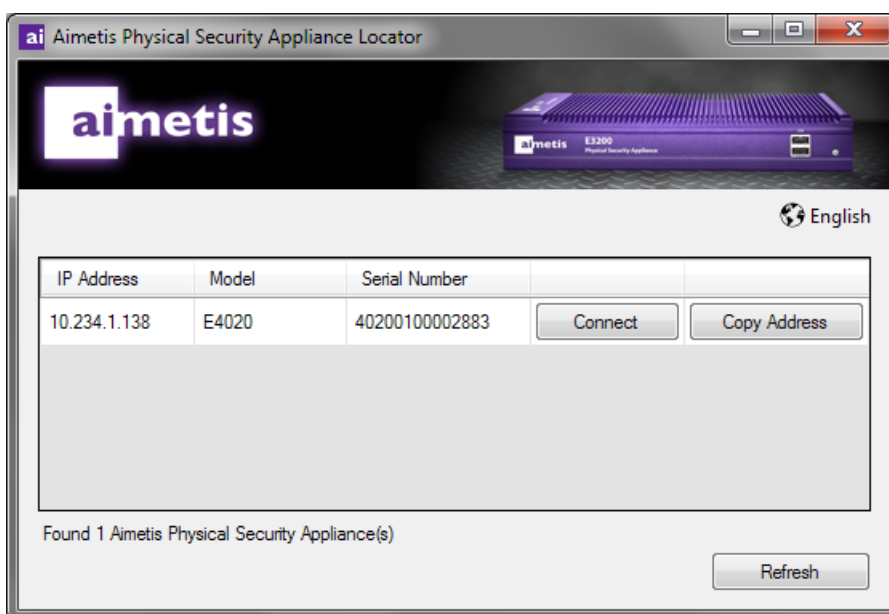

Figure 11: Locator page
6. The found Aimetis Physical Security Appliance devices will appear in a list. Click **Connect** to configure the device (Figure 11).